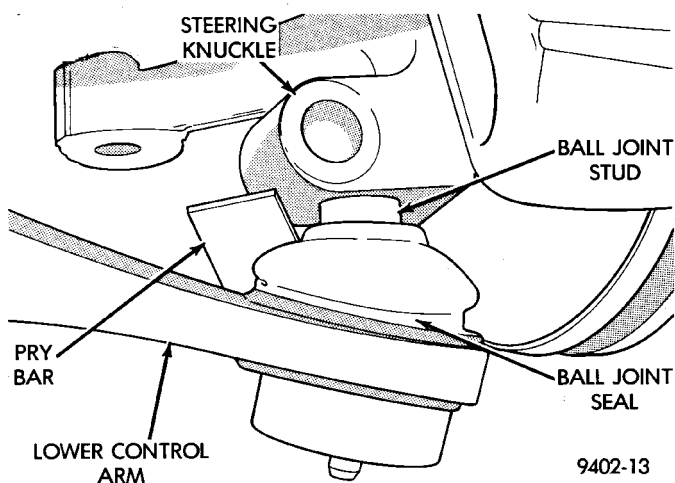

Fig. 23 Separate Ball Joint Stud from Knuckle Assembly
(12) Separate ball joint stud from steering knuckle by prying down on lower control arm (Fig. 23). **Note: Use caution when separating ball joint stud**